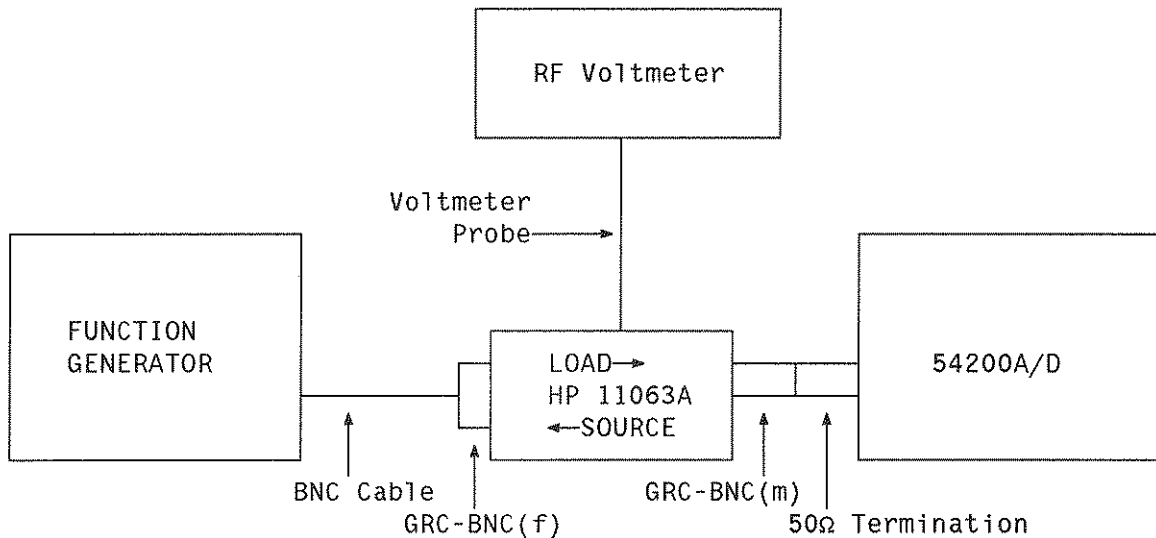

Figure 9-6. Bandwidth Test Connections.
2. Configure the system shown in figure 9-6.